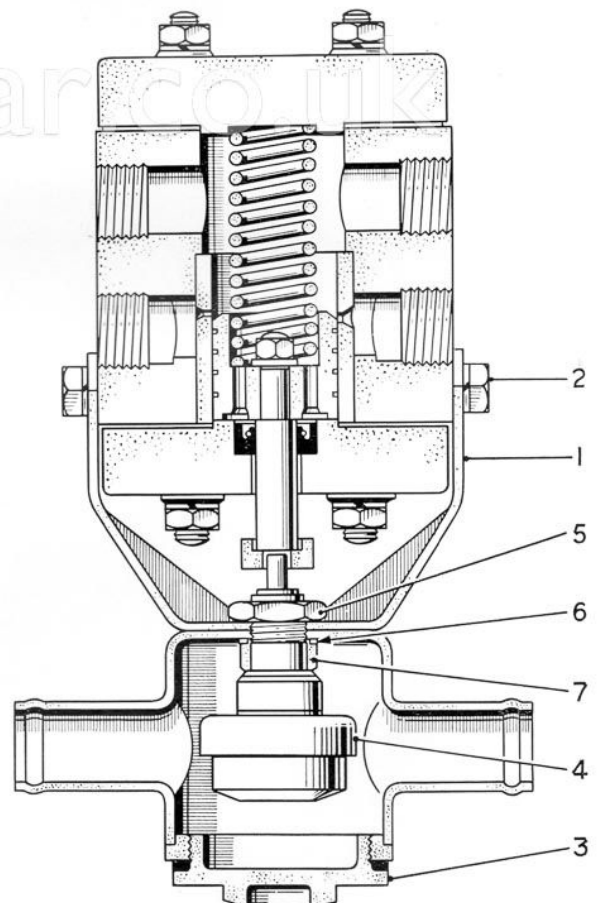

FIG. 3. SECTION THROUGH THERMOSTAT CONTROLLER
As the coolant temperature rises, and reaches the predetermined temperature, the thermostat element in the fan controller (Fig. 3) expands and causes the actuating rod to move, which in turn causes axial movement of the spring-loaded oil valve plunger. This movement restricts the cross-sectional area of the by-pass, and by doing so, the amount of oil being by-passed, is reduced, and oil is allowed to flow to the axial motor (4) on which the fan is mounted, which then starts to rotate. The axial fan motor is of the constant displacement type.